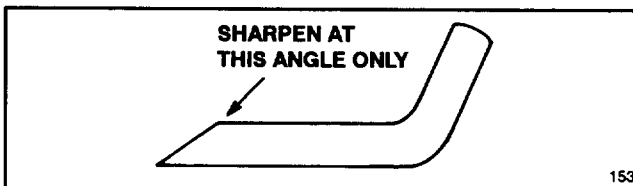

Figure 24
6. **SHARPENING BLADE**—Using a file, sharpen top side of blade (side facing mower housing) and maintain original cutting angle (Fig. 24). The blade will remain balanced if the same amount of material is removed from both cutting edges.